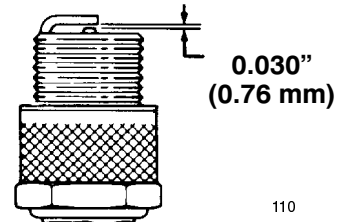

Figure 30
3. Set the air gap between the spark plug electrodes at 0.030 inch (0.76 mm) (Fig. 30).